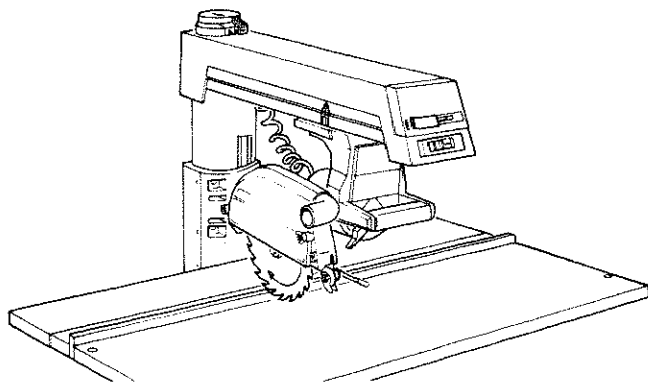

Fig. 74
2. Place the *guard* over the *blade*. You will feel the *guard* fall into place when the ridge on the inside of the *guard* slides into the slot on the *motor*. (Figure 74)